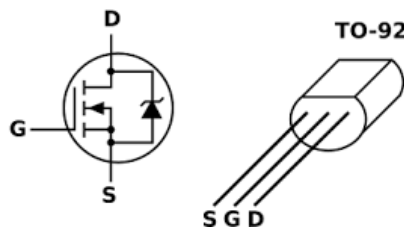
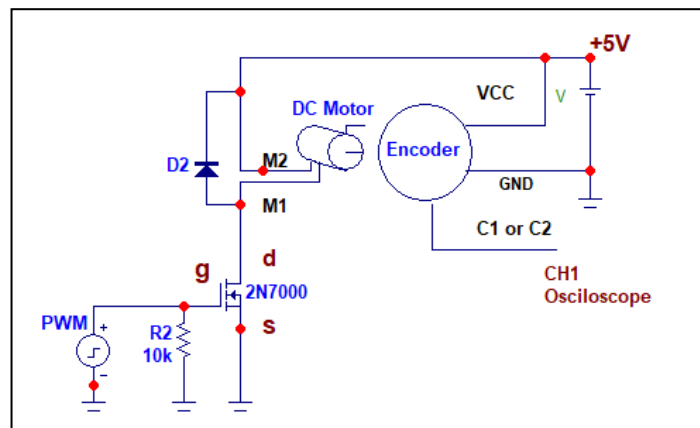

Fig. 4.8. 2N7000 pin layout
Figure 4.10. DC Motor and Encoder electrical diagram
- 1.1. Connect the encoder and motor in a circuit as shown in Figure 4.10 using the 2N7000 MOSFET transistor package diagram on Fig. 4.8. Use the 5V DC source from the Power Supply for the DC motor and the Encoder. Follow the correct polarity of the connections.